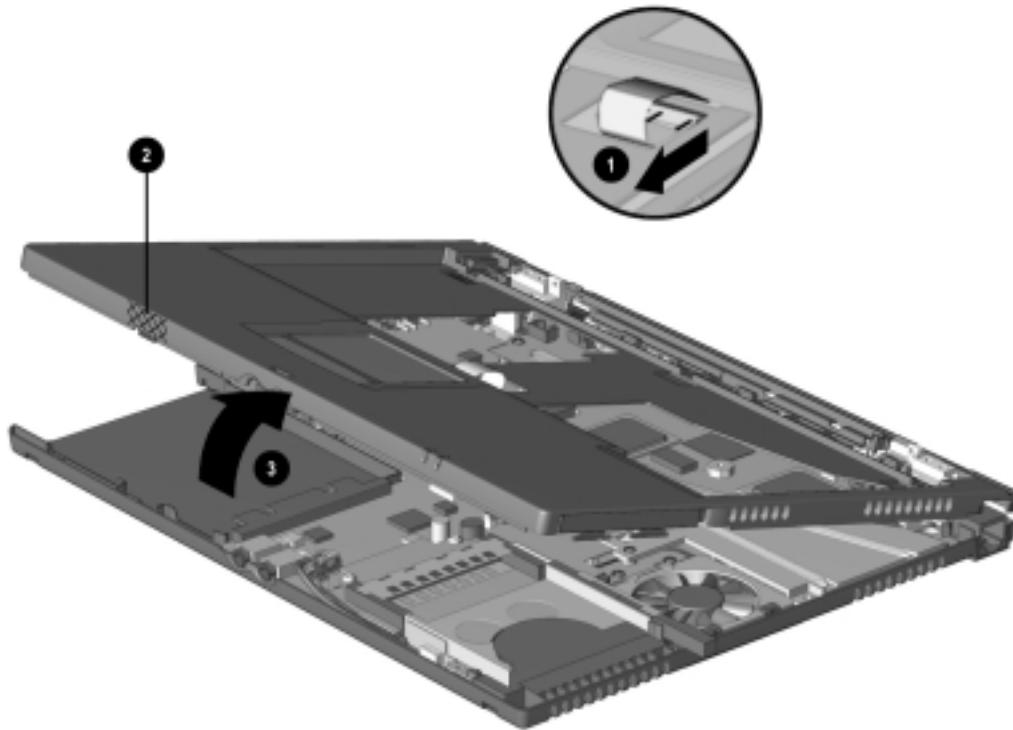

Figure 5-22. *Removing the Top Cover*
9. Use the connector removal tool to disconnect the TouchPad cable ❶ from the system board (Figure 5-22).
10. Press in on the front of the top cover at the highlighted area ❷, and swing the front edge of the cover up and away from the base assembly ❸.